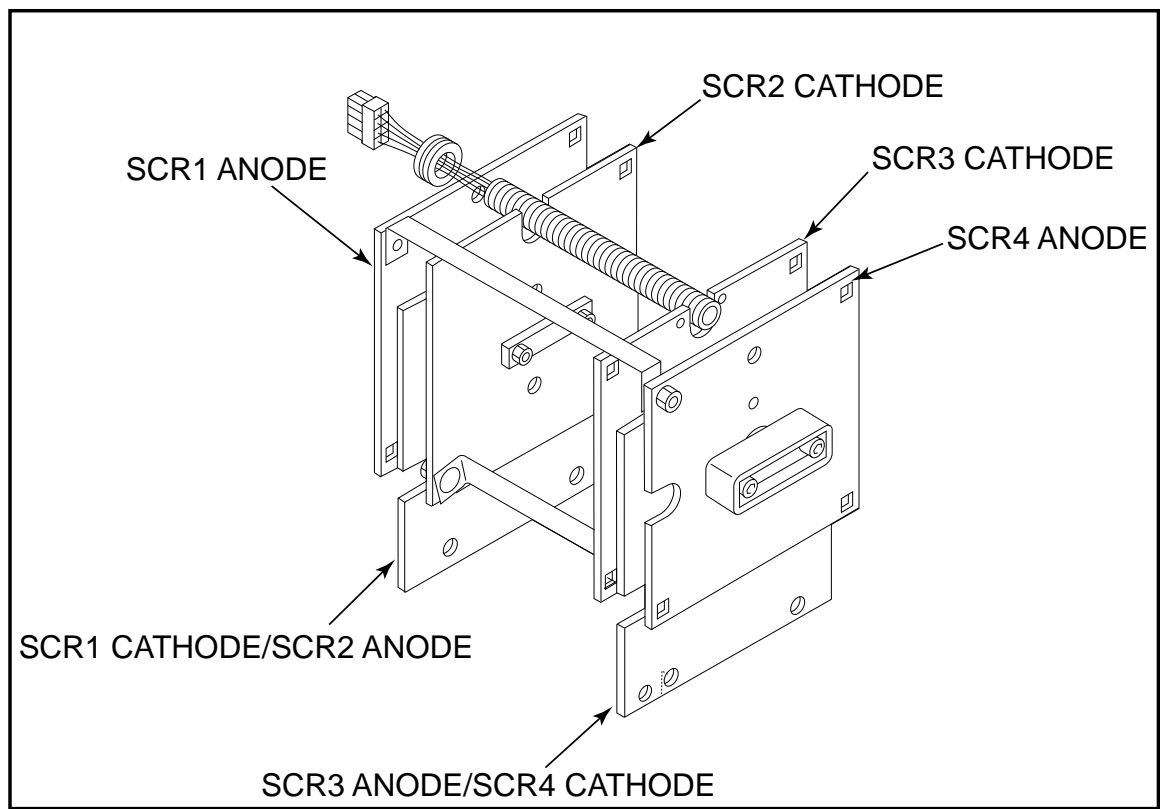

FIGURE F.4 SCR TEST POINTS
3. Using an analog ohmmeter test the resistance from anode to cathode of SCR1. Reverse the meter leads and check from cathode to anode of SCR1. See Figure F.4. If a low resistance is indicated in either direction SCR1 is faulty. Replace SCR Bridge Assembly. See **SCR Bridge Assembly Removal and Replacement**.